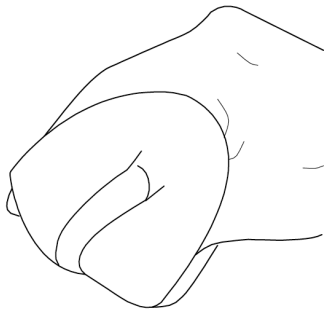

Figure 16
6. Rinse in clean water by submerging the air filter element in fresh water and applying a slow squeezing action (see Figure 16).